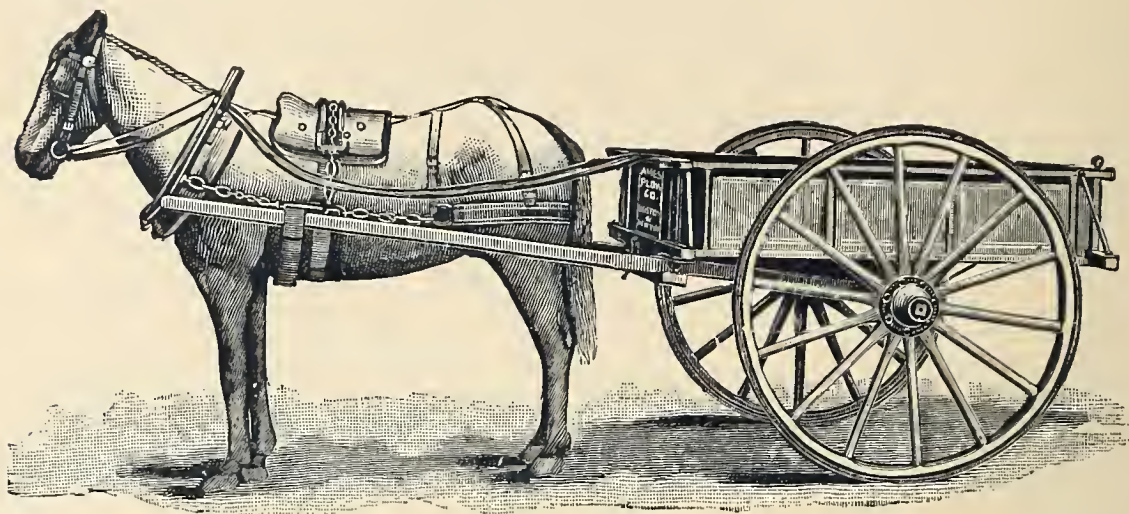

Fig. B 562.—Medium Farm-Cart.
**The Medium Farm-Cart.**—This is represented at *Fig. B 562*. It is light enough for an ordinary farm horse, and is of suitable carrying capacity for general use.